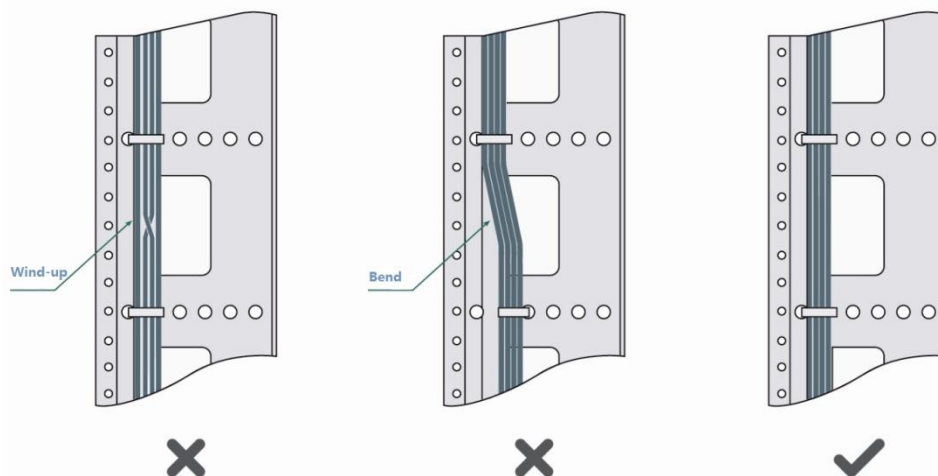

Figure D-1 Bundling Cables (1)
- Cables should be neatly and properly bundled in the cabinet without twisting or bending, as shown in Figure D-1.